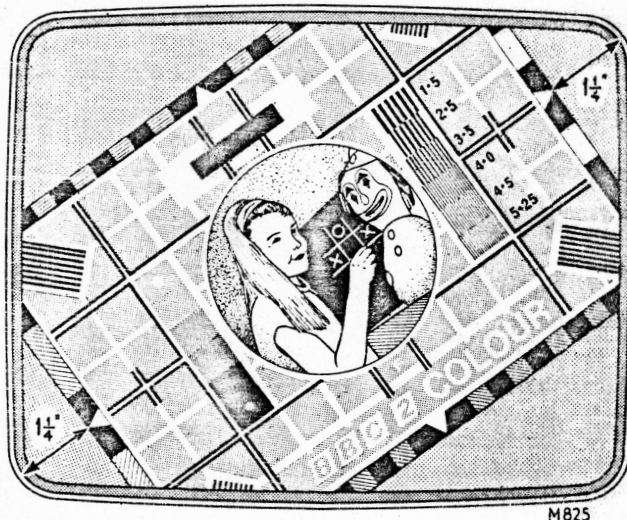

Fig. 3
7. The edge of the test card castellations should now be 1 1/4" short of the tube corners. See Fig. 3.